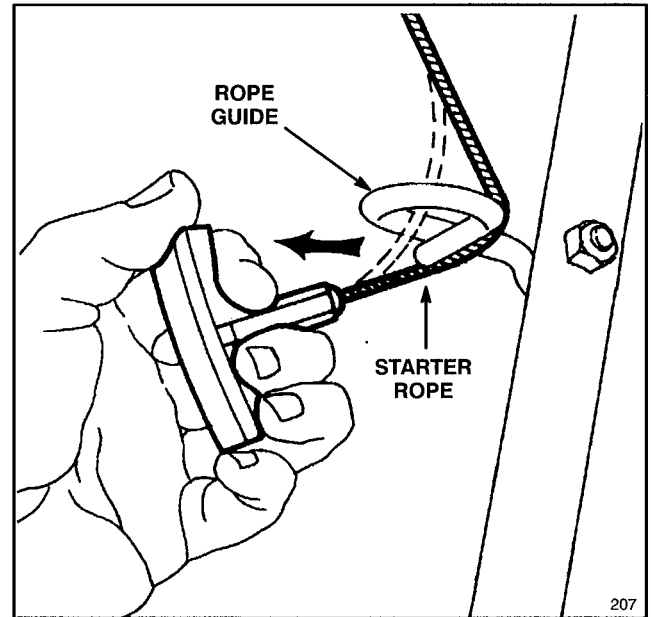
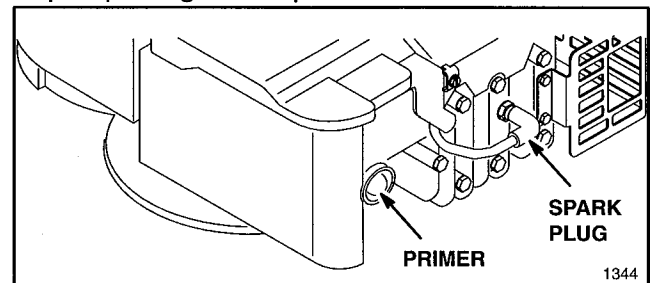

Figure 3
Figure 6
3. STARTER ROPE (Fig. 3)—Pull starter rope through opening in rope guide. By squeezing control bar (Fig. 6) against handle, blade brake will release and allow rope to be pulled easily up to rope guide.
1. Push spark plug wire onto spark plug (Fig. 6).
4. Push primer three (3) times (Fig. 6). **Wait about two (2) seconds between each push.**